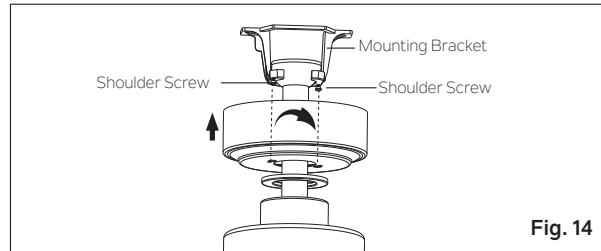

Fig. 14
Step 1. Loosen the two shoulder screws at the bottom of the mounting bracket.(do not remove). (**Fig. 14**)